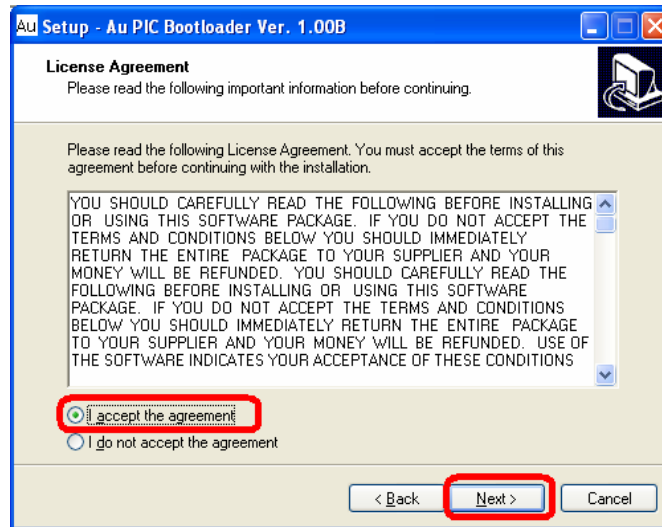

Figure 6-16
- A "License Agreement" window will pop up, read the license agreement and select "I accept the agreement", then click "Next" to continue (Figure 6-16).